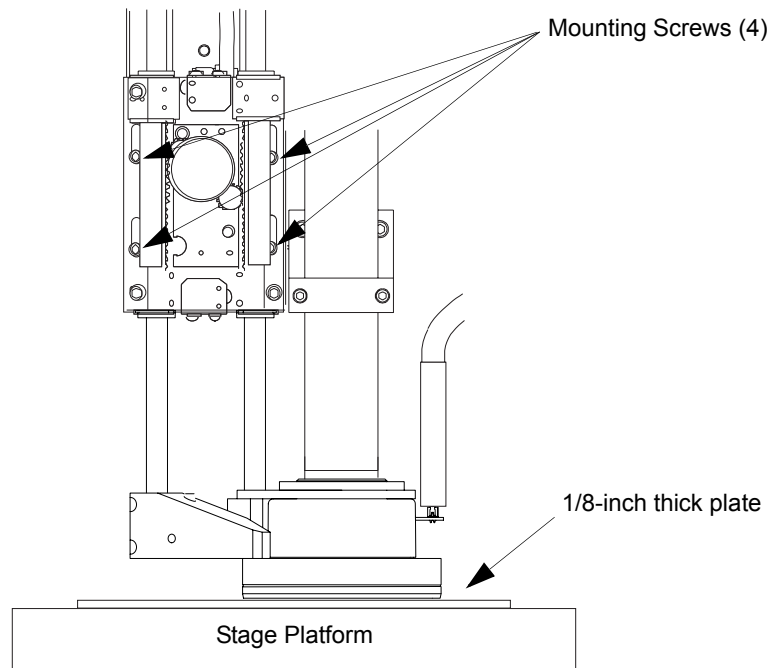

Figure 8-25 Height Adjustment
5. Loosen the mounting screws, and lower the entire PRL assembly on the mounting slots until the rings are resting LIGHTLY on the 1/8-inch thick plate (see Figure 8-25). This is to ensure that the PRL rings are parallel to the inspection surface.